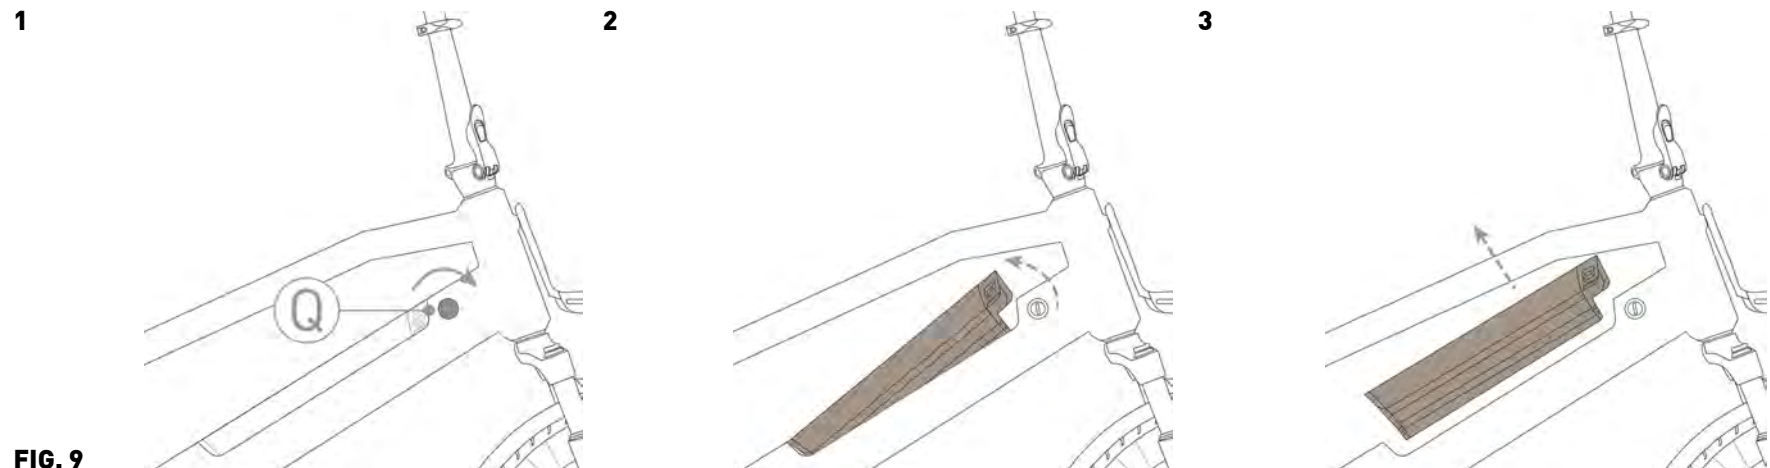

FIG. 9
1. Insert the battery lock/unlock key into the battery lock at the top right of the frame near the handlebar and turn the keys clockwise. (Ref. Q – Figure 9)
2. Holding the key rotated, unhook the battery and lift it (Ref. 2 – Figure 9)